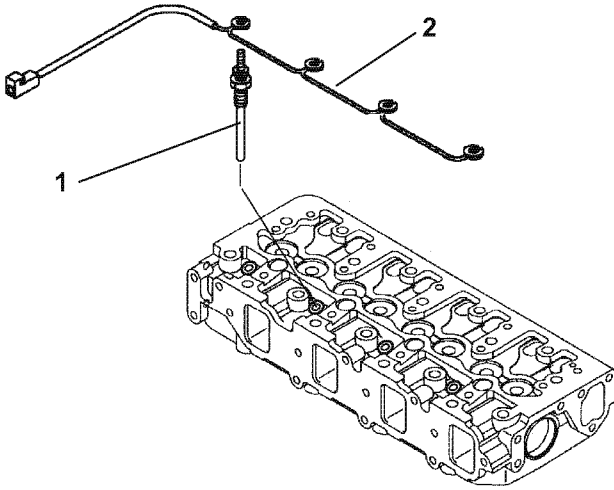

Figure 6-5
1. Remove the glow plug harness (Figure 6-5, (2)) from each glow plug (Figure 6-5, (1)).